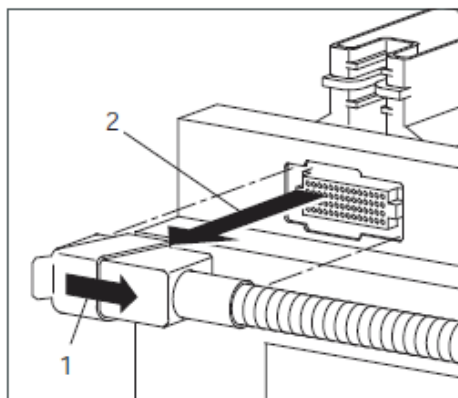

Figure 30
1. Pull interlocking slide of low voltage connector forward (Figure 30, 1) and remove the connector (2).